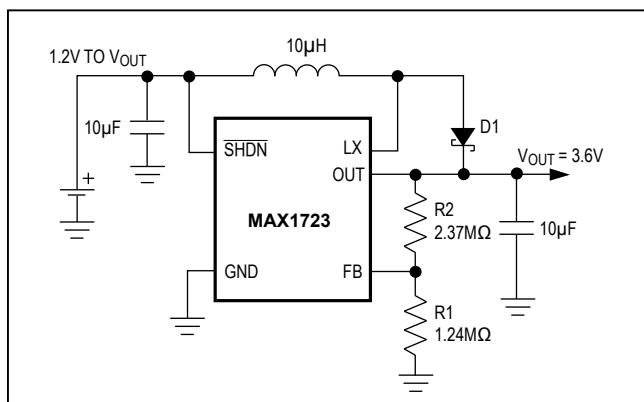
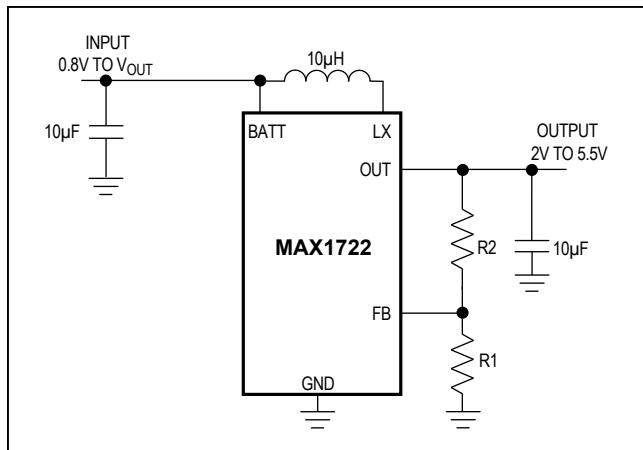
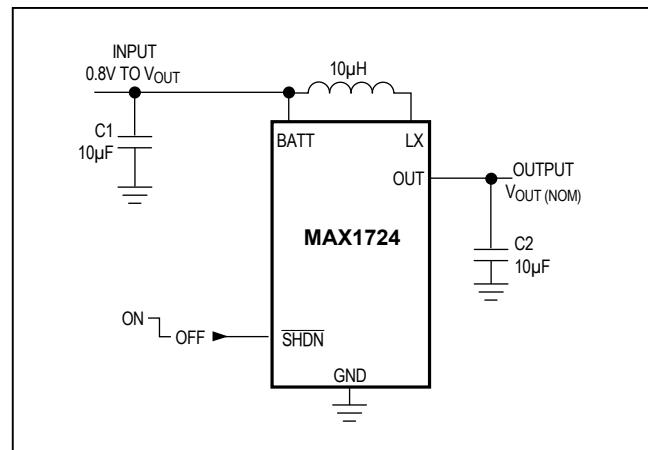

Figure 3. MAX1723 Single-Cell Operation
Figure 7. Adjustable Output Circuit
Figure 8. MAX1724 Standard Application Circuit
**Note 2:** Guaranteed with the addition of a Schottky MBR0520L external diode between LX and OUT when using the MAX1723 with only one cell, and assumes a 0.3V voltage drop across the Schottky diode (see Figure 3).
(Figure 3 (MAX1723), Figure 7 (MAX1722), Figure 8 (MAX1724),  $V_{BATT} = V_{IN} = 1.5V$ ,  $L = 10\mu H$ ,  $C_{IN} = 10\mu F$ ,  $C_{OUT} = 10\mu F$ ,  $T_A = +25^\circ C$ , unless otherwise noted.)
lacks a BATT pin; therefore, this circuit is powered through the OUT pin. Adding a Schottky diode in parallel with the P-channel synchronous rectifier allows for startup voltages as low as 1.2V for the MAX1723 (Figure 3). The external Schottky diode is not needed for input voltages greater than 1.8V. Once started, the output maintains the load as the battery voltage decreases below the startup voltage.
The output voltage can be adjusted from 2V to 5.5V using external resistors R1 and R2 (Figure 7). Since FB leakage is 20nA (max), select feedback resistor R1 in the 100k $\Omega$  to 1M $\Omega$  range. Calculate R2 as follows: